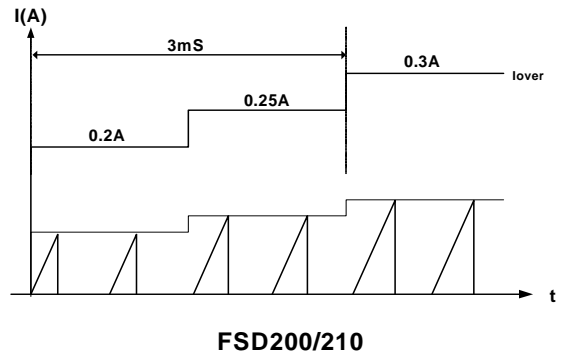

Figure 11. Internal Soft Start
**5. Soft Start :** FSD200/210 has an internal soft start circuit that gradually increases current through the Sense FET as shown in figure 11. The soft start time is 3msec in FSD200/210.